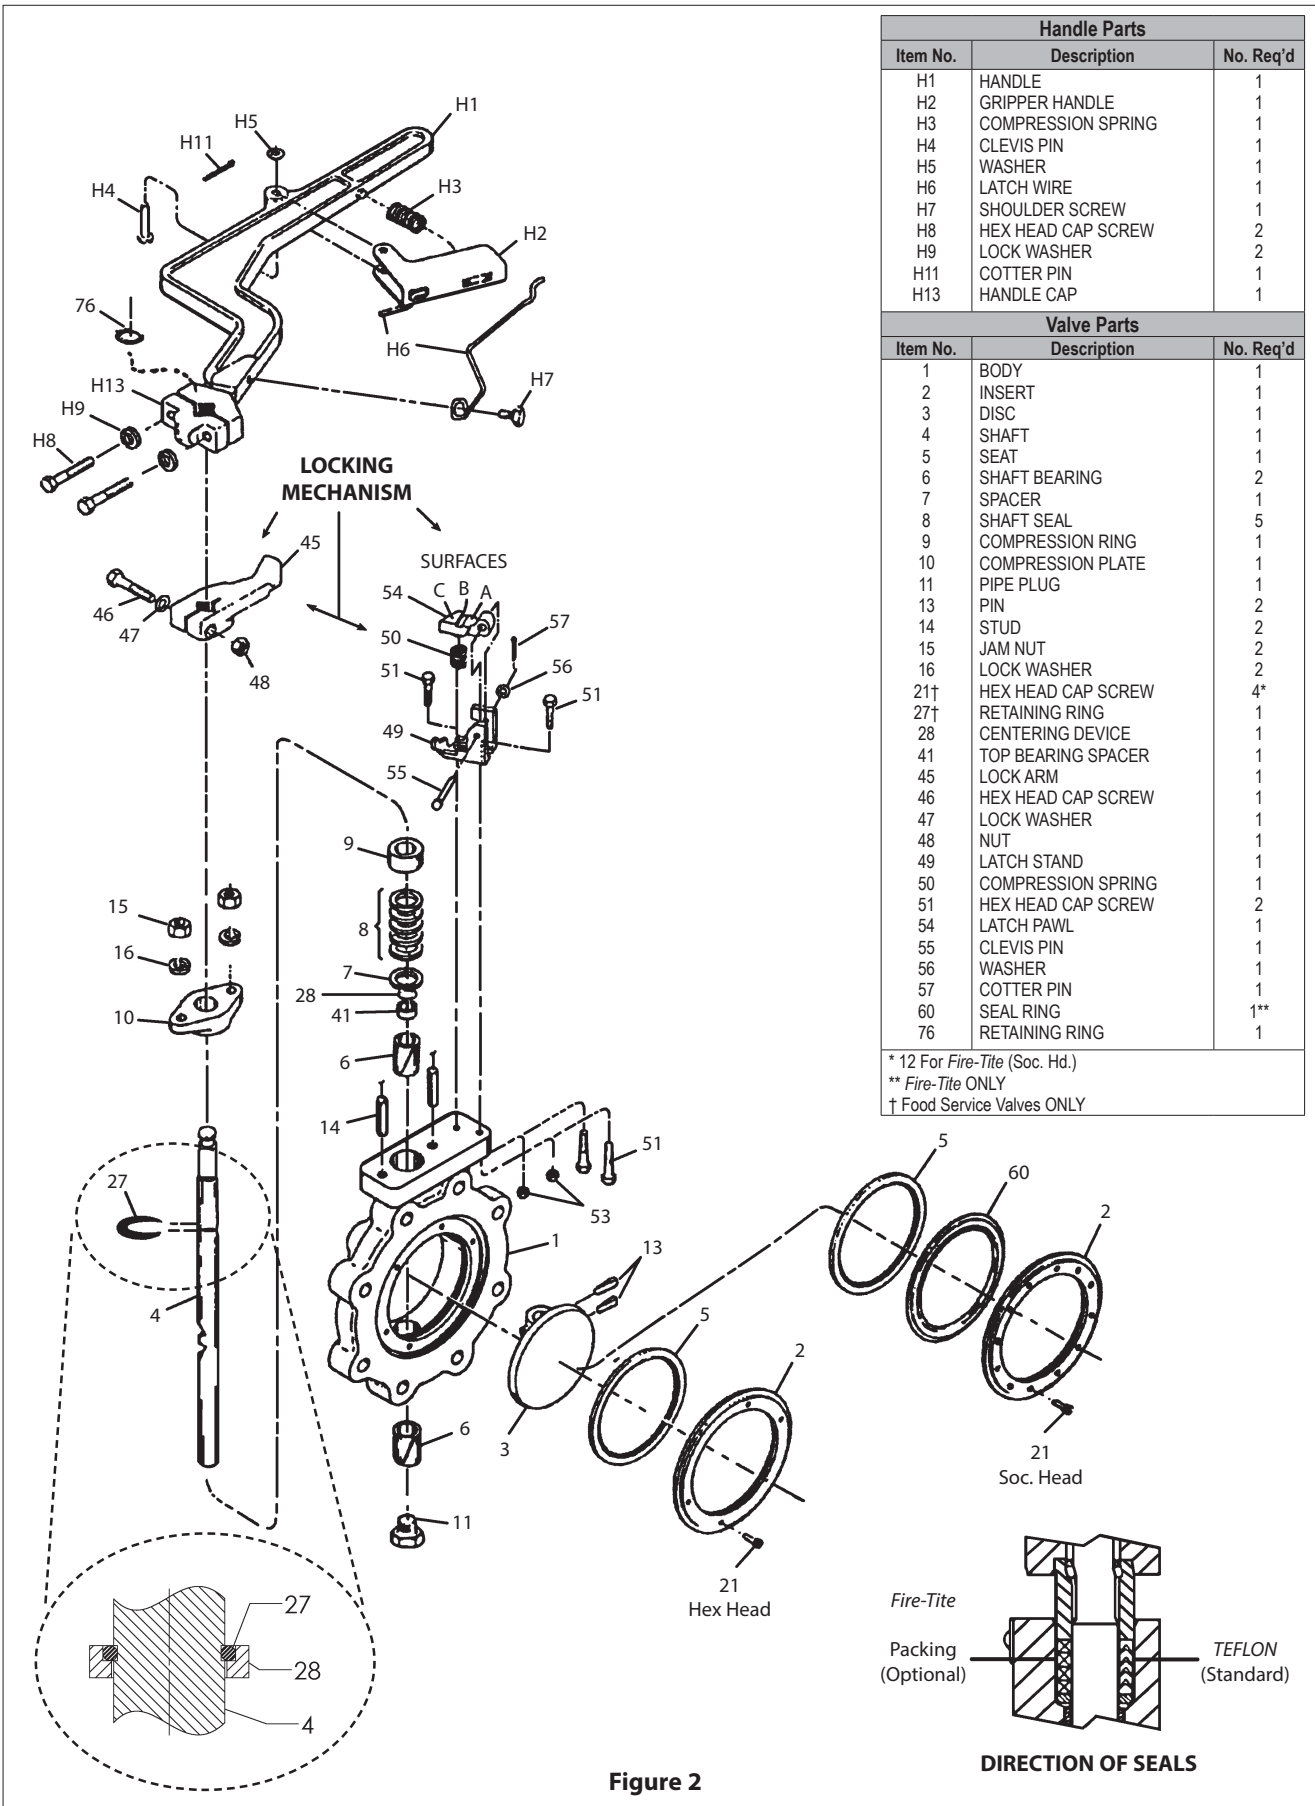

Figure 2
Routine maintenance consists of tightening down the compression plate periodically to compensate for seal wear. The valve should be closed during tightening. The compression plate, however, should not be tightened down too severely, since this will shorten the life of the seals. More extensive maintenance such as seat, seal and bearing replacement is described below. Numbers in parentheses () refer to items shown in (Figure 2).
(Numbers in parentheses () refer to items in Figure 2).
2. Remove the insert screws (21) and the insert (2), (See Figure 2). If the insert does not lift out easily, tap it out from the shaft side using a wooden or plastic rod and a hammer. Don't strike the valve directly with the hammer.
3. Remove the metal sealing ring (60) in type WSRF *Fire-Tite* valves only. Remove the soft seat (5) and discard it. If the valve is *Fire-Tite*, carefully clean the sealing ring. Polish the I.D. It should be free of all grooves and scratches. If deep scratches are present, replace the sealing ring.
5. Carefully clean and polish the sealing surface of the disc (3). It should be free of all grooves and scratches. **BE CAREFUL NOT TO DAMAGE COATING ON FOOD DISC.**
8. Verify that the disc is in the level position. Install the new soft seat (5). Install the sealing ring (60) at this time if *Fire-Tite*. (See **Figure 2**)
(Numbers in parentheses () refer to items shown in **Figure 2**).
1. Remove the retaining ring (76).
2. Remove the handle by loosening the cap screws (H8) which hold the handle assembly to the shaft square. Slide the handle off. Also, loosen cap screw (46) and remove the lock arm (45) from the shaft square.
3. Remove the nuts (15) and lockwashers (16) from above the compression plate. Remove the compression plate. The studs (14) do not have to be removed.
4. Remove the compression ring (9).
5. Remove the old shaft packing (8) with a packing tool.
6. The spacer (7) need not be removed for shaft packing replacement.
7. Install new packing (8) (**See Figure 2 for orientation**).
8. Reinstall the compression ring (9), the compression plate (10), the lockwashers (16) and the nuts (15).
10. Tighten the nuts (15) evenly until the packing is adequately compressed to prevent leakage. This should require tightening the nuts approximately 1-1/2 to 2 full turns past the "finger-tight" position.
11. Reinstall the lock arm (45) and handle as described in steps 12 and 13 to follow.